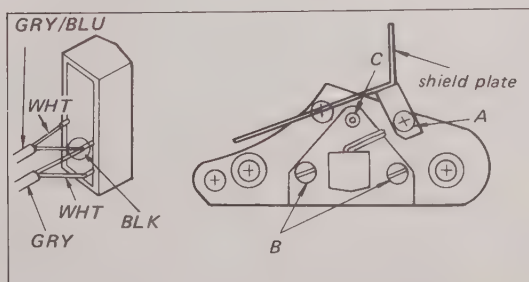

Fig. 5-7. Erase head replacement
1. Remove the shield plate for erase head by loosening the screw A shown in Fig. 5-7.
3. Remove the screw B shown in Fig. 5-7. Do not lose the spring under screw B. Do not loosen the screw C. This frees the erase head along with its housing.